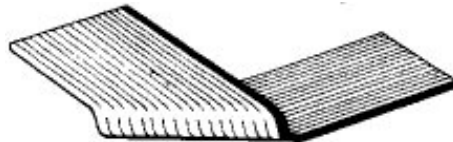
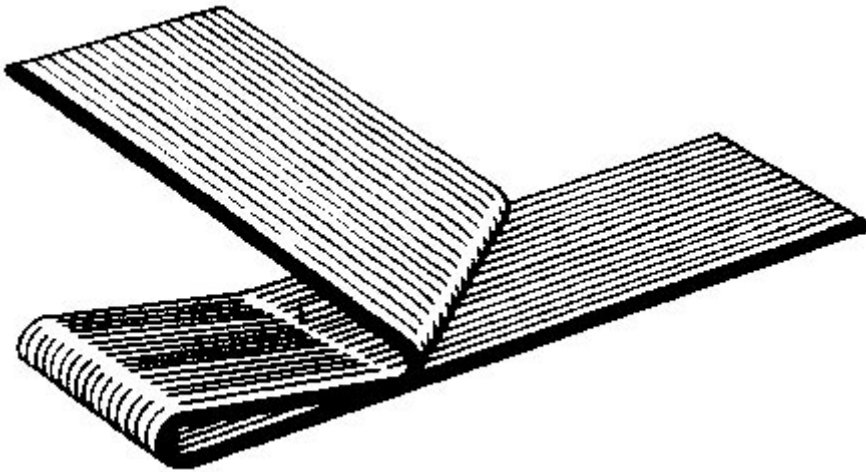

Figure A.9 - Right Angled Bend - Single Fold
Figure A.10 - Right Angled Bend - Double Fold
- (1) Where ribbon cable has to be run flat with a right angled bend, the cable can be folded in one of two ways, either a single fold as in Figure A.9 or, if this would cause the wrong edge to come out on top, the cable should first be doubled back as in Figure A.10